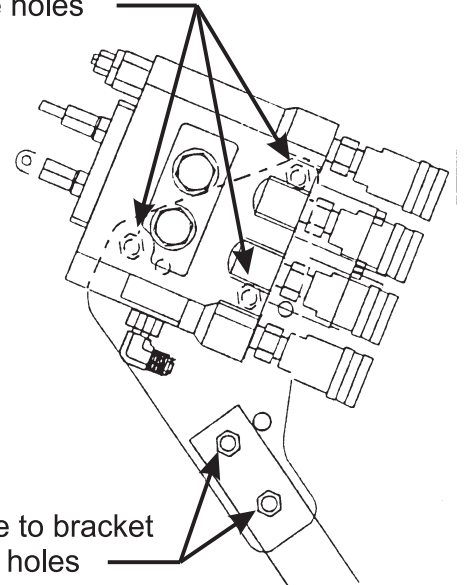

Figure 1
ATTACHING VALVE TO LOADER MOUNTING BRACKET (Figures 1 & 3)
1. Install 3/4 x 9/16 elbow fitting (9) to valve (1). Install adapter fittings (29), female quick couplers (15) and 1" colored bands (16) to working ports of valve (1).
2. Fasten valve mounting bracket (2) toward the inside on right mid mounting bracket using 1/2 x 2-1/2 cap screws (17), 1/2 flat washers (18) and 1/2 lock nuts (19).
3. Fasten valve mounting plate (5) to valve mounting bracket (2) using 3/8 x 2-1/4 cap screws (13) and 3/8 lock nuts (14)(Figure 1).
4. Fasten valve (1) to valve mounting plate (5) with power beyond port on the bottom, using 5/16 x 3/4 cap screws (6) and 5/16 lock washers (7)(Figure 1).
5. Fasten decal mounting plate (4) to valve (1) using 5/16 x 3/4 cap screw (6) and 5/16 lock washer (7). Making sure surface of valve box is clean and dry, remove backing from decal (20) and apply it to decal mounting plate.
6. Thread nut (24) onto handle (3). Attach handle (3) to valve (1). Slip boot (23) over handle and cover handle assembly. Attach ball (8) to handle.